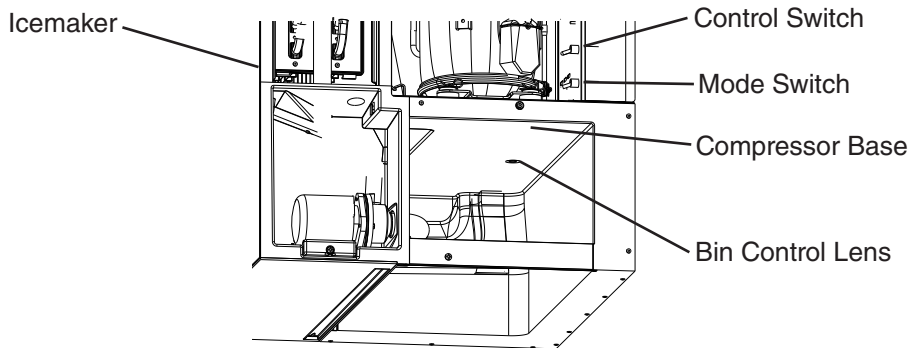

Fig. 10
- 6) 1 min. fill cycle begins. Place an object 5" to 7" (127 to 178 mm) away from the bin control lens. See Fig. 10. 15 sec. later, the icemaker shuts down. Remove the object from the bin control lens. 30 sec. later, the icemaker restarts.